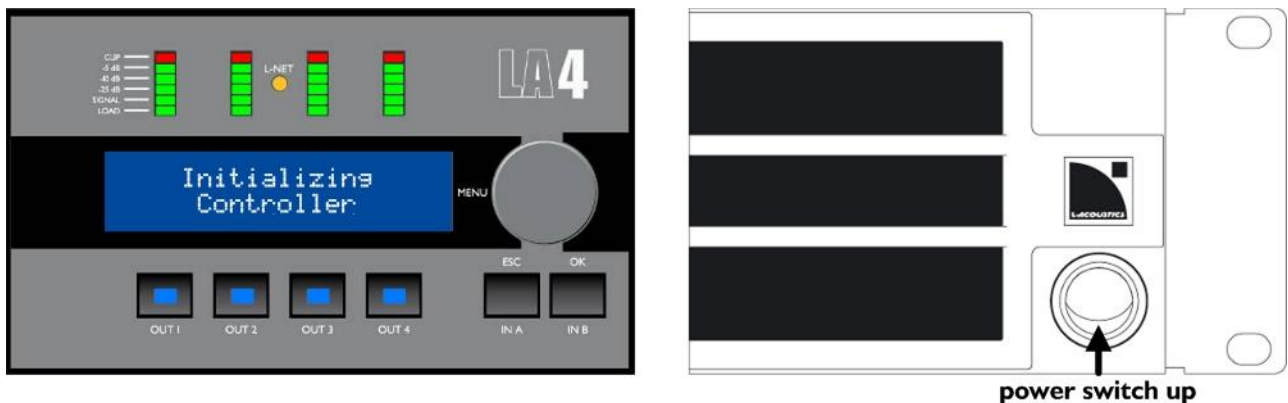

Figure 11: Start-up sequence
- ▶ Press the power switch up to power the LA4 on (see Figure 11).